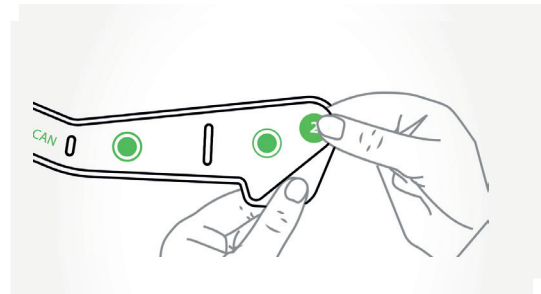

Figure 16: Remove the liner while holding point 2 of the DeltaScan Patch.
- Face the patient. Hold point 2 of the DeltaScan Patch between thumb and index finger, and remove the liner, as indicated in Figure 16.